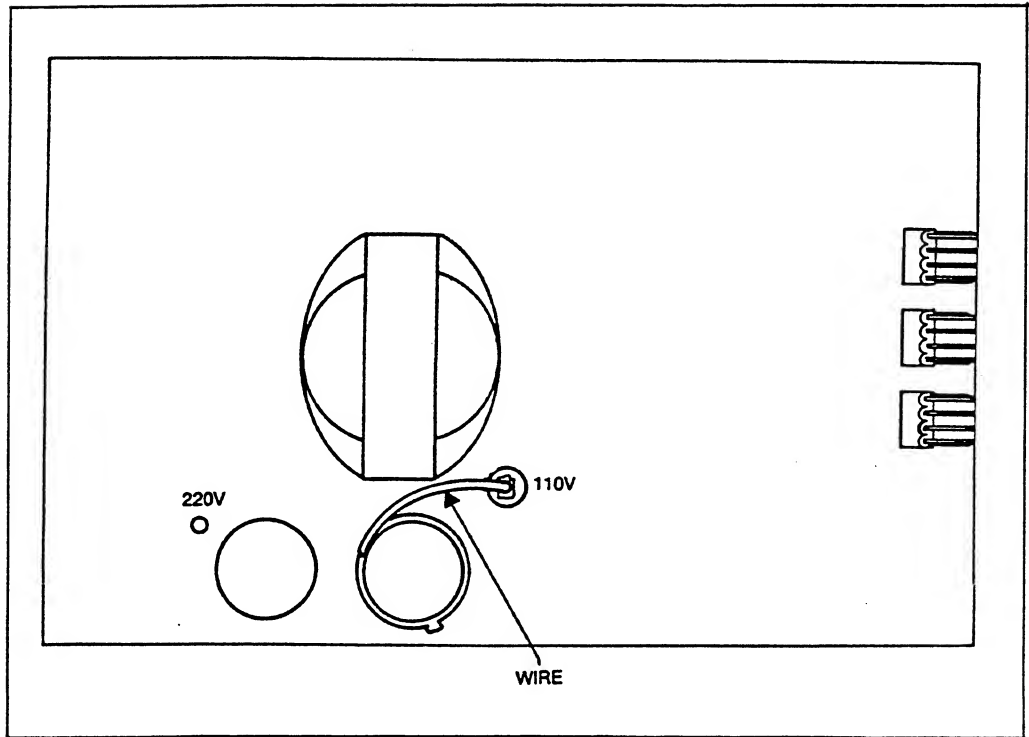

Figure 3-4. Line Power Voltage Pins
3. Refer to Figure 3-4 to locate the Line Power Voltage Pins. To select 180 to 264V operation, connect the wire to the pin marked 220V. For 90 to 132V operation, place the wire on the pin labeled 110V.